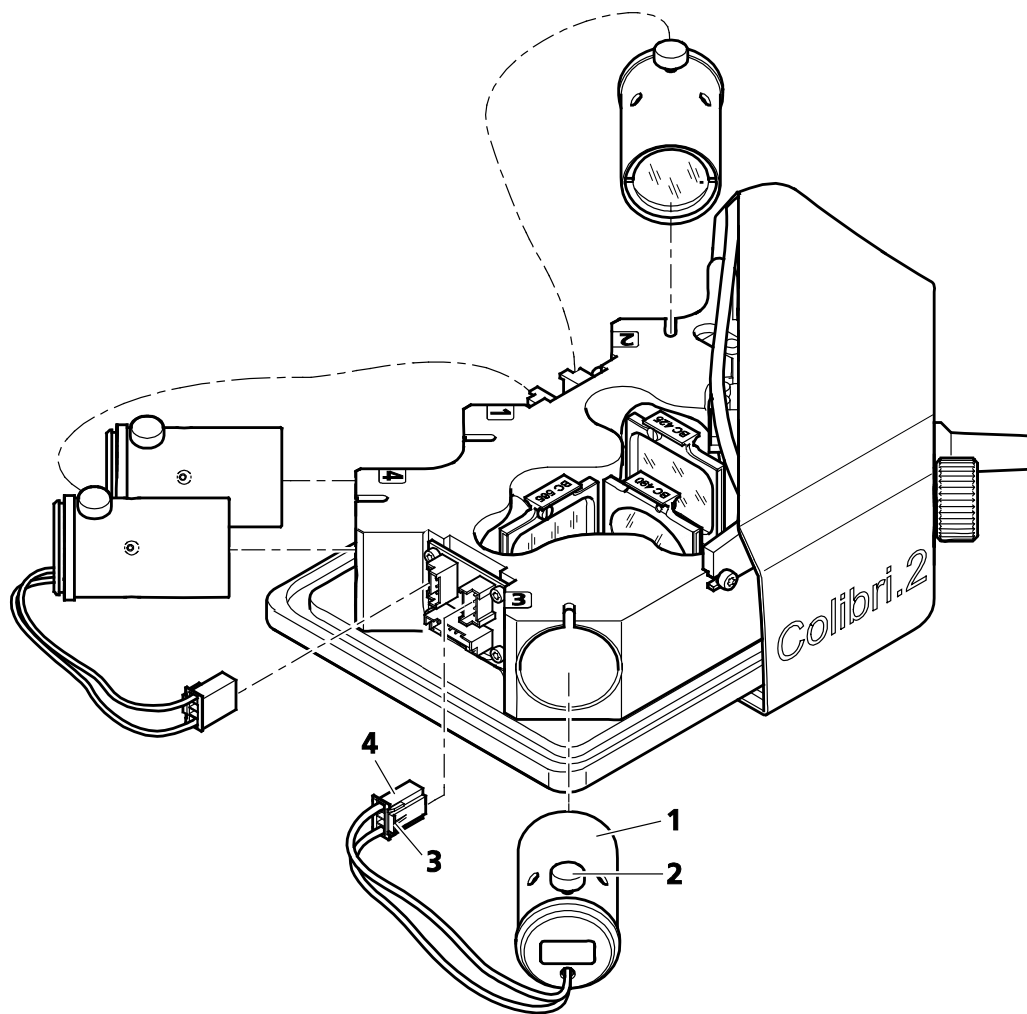

Fig. 5-3 Inserting an LED module into the lamp module
- Insert the LED module (Fig. 5-3/1) into the mount up to the stop position (here, for example, the mount for channel ③).
- Tighten the knurled screw (Fig. 5-3/2) slightly to hold the module in place.
- Connect the cable of the LED module (Fig. 5-3/3) to the corresponding socket. With the LED module inserted, the cable length allows only one plug-in position.